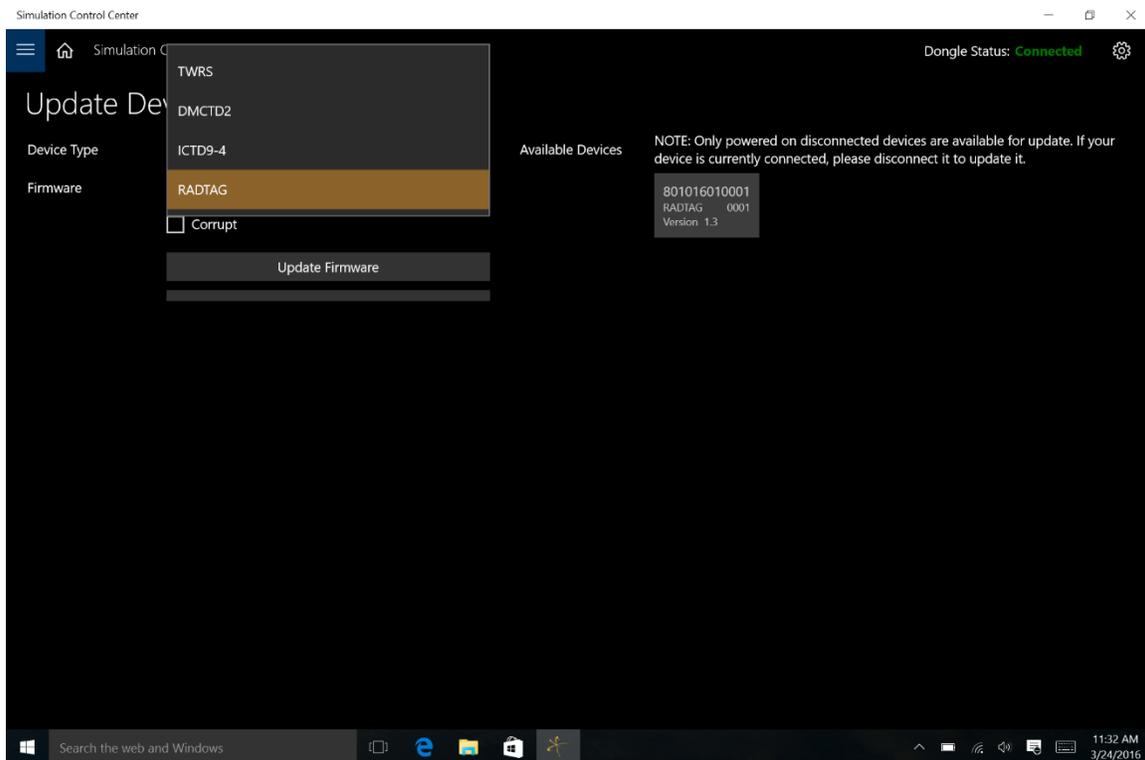

FIGURE 6 SELECT DEVICE TYPE
2. From the Device Type drop-down list, select RADTAG (see Figure 6)